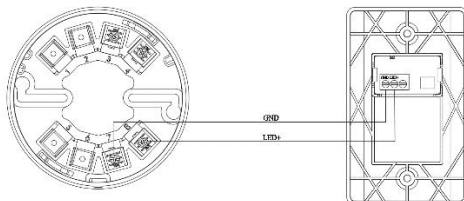

Figure 4. Wiring Base and Remote Indicator
3. If the detector needs to work with the remote indicator, connect the base and the remote indicator as illustrated in Figure 4.